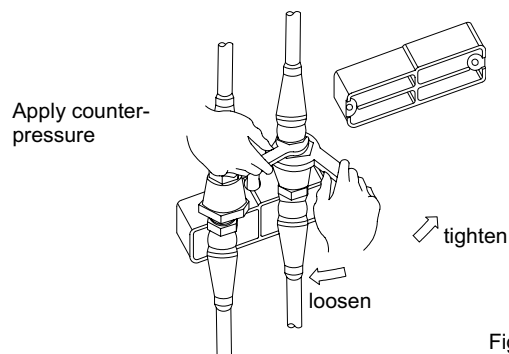

Fig. 15
11. Unscrew the right cap nut with the wrench supplied SW 24. *Make sure to apply counter-pressure on the upper coupling with the second wrench SW 21 (Fig. 15).*